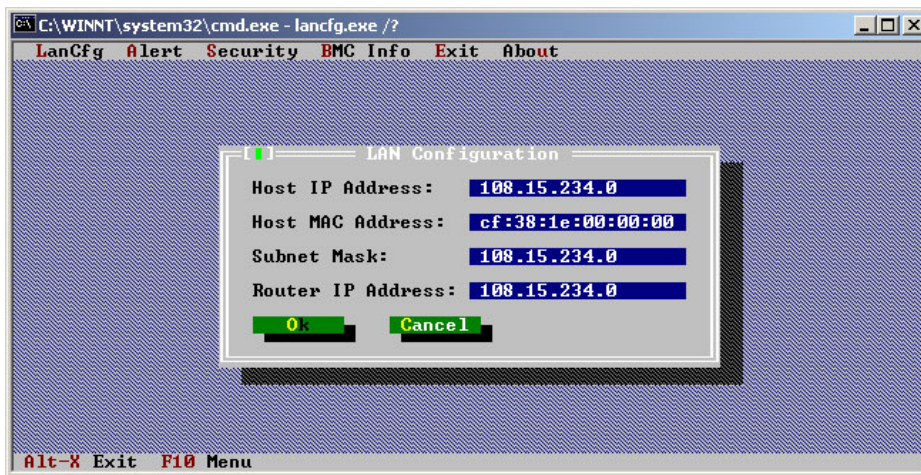

Figure 2-2 LAN configuration screen
3. Select **LanCfg**. The LAN Configuration screen is displayed. See Figure 2-2 on page 12.